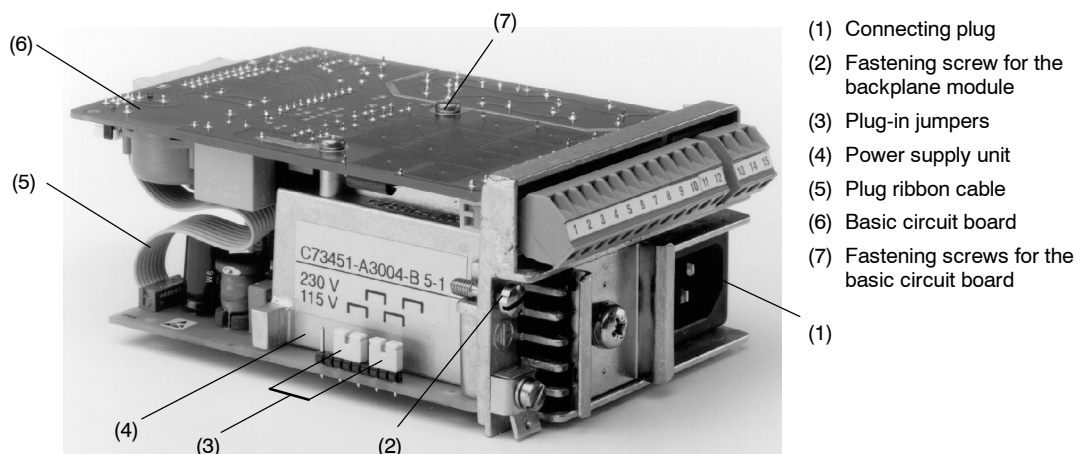

Figure 8-2 Backplane module
- Pull out the ribbon cable plug (see (5) figure 8-2)
- Loosen the fastening screw of the basic circuit board (see (7) fig. 8-2).
(Pay attention to correct plugging of jumpers (see (3) figure 8-2))